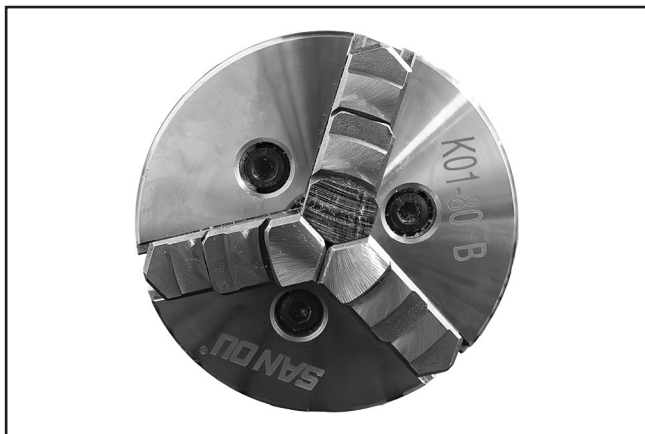

Figure 20. Jaws converged evenly in center of chuck.
10. Install remaining jaws in same manner. Jaws should converge evenly at center of chuck (see **Figure 20**).